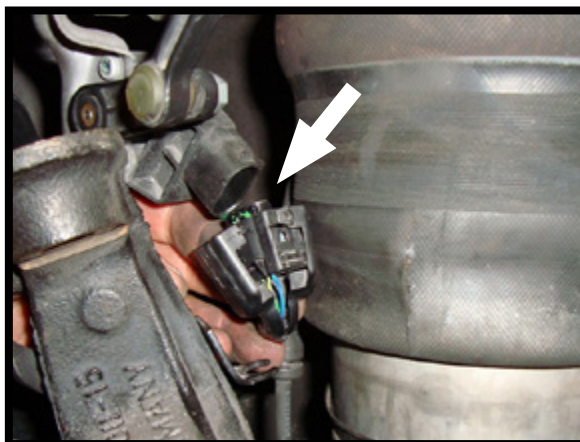

FIGURE 10-7
8. DISCONNECT THE RIDE HEIGHT SENSOR CONNECTOR. (FIGURE 10-7)